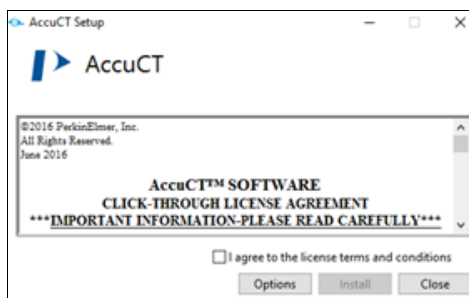

Figure 9.
- 2 Double-click the **AccuCT Setup** icon. The installer opens (see Figure 9).